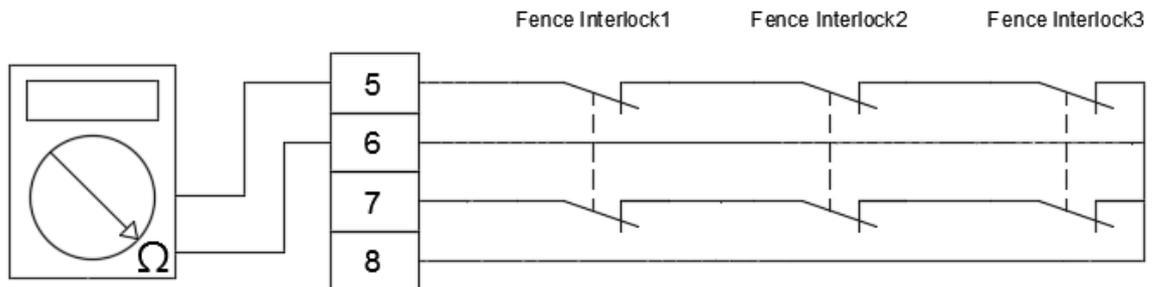

Figure 8.19 Turn off fence safety signal and measure Pin 5 and Pin 6
3. Measure Pin 5 and Pin 6 of the safety connector; the reading on the multimeter must be $< 0.5 \Omega$, as shown in Figure 8.19 below.